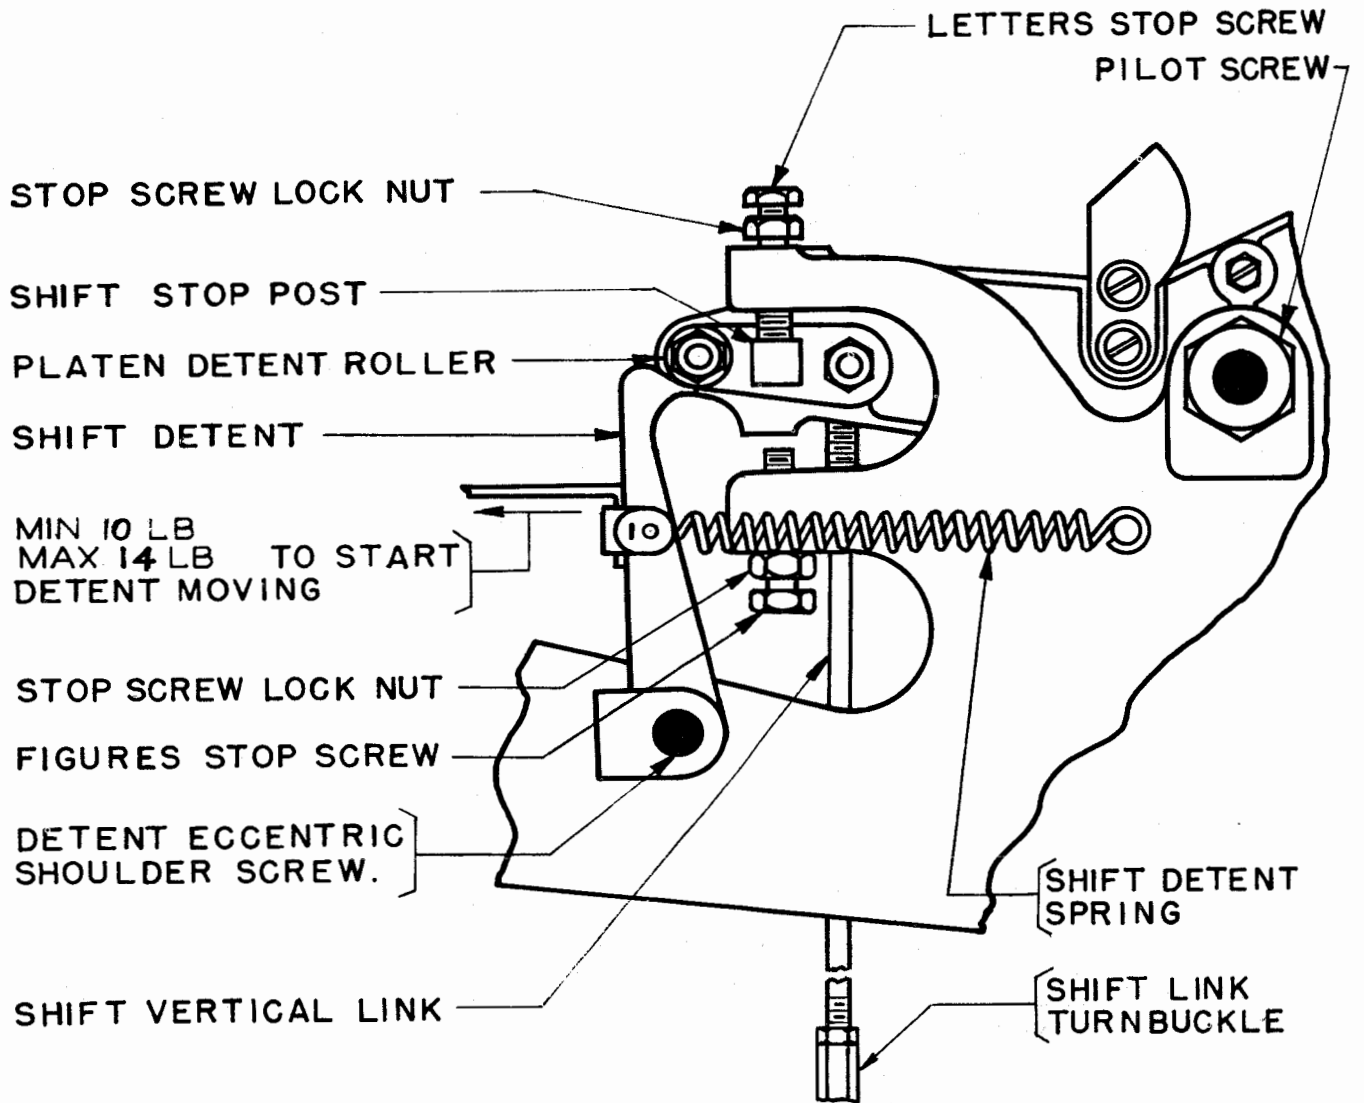

Figure 30
To Adjust: Disconnect the Line Feed and the shift vertical links at the upper-shoulder screws, unhook the platen balance and shift-detent springs, and reposition the platen-unit pilot screws. See Figures 30, 34, and 35.
2.51 Platen-shift Stop-post top and bottom surfaces should be parallel to a line through the center of the platen-detent roller and the platen-unit pilot screws as gauged by eye. See Figure 30.
To Adjust: Raise the LTRS stop screw if the impression is light at the bottom, and lower the screw if light at top. See Figure 30.
To Adjust: Reposition the FIGS stop screw. See Figure 30.
by the function-bail blade. These two clearances should be within 0.010 inch of each other. See Figures 30, 31, and 34.
2.61 Shift Detent should ride the same distance on either side of platen-detent roller, gauged by eye, when the platen is shifted from FIGS to LTRS position. See Figure 30.
2.62 Shift-detent Spring: The shift-detent spring should have a tension of minimum 10 pounds, maximum 14 pounds. See Figure 30.